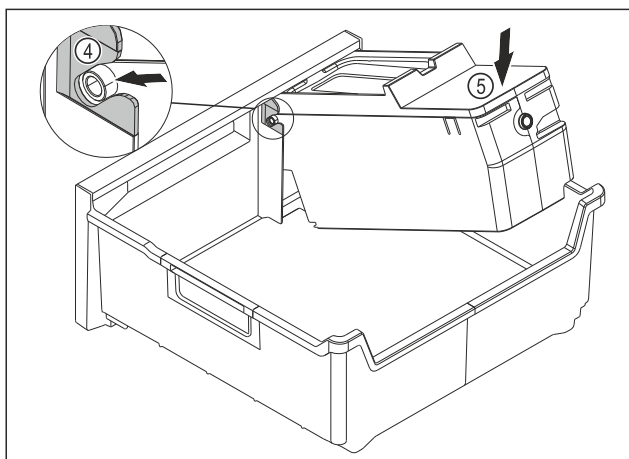

Fig. 175
- Installing the EasyTwist-Ice body: Push the axes for the EasyTwist-Ice body into the guides Fig. 175 (4).
- Press the EasyTwist-Ice body Fig. 175 (5) down at the back.